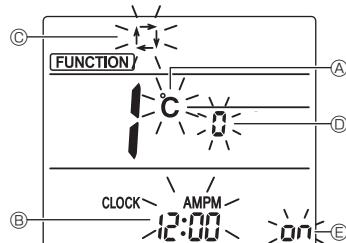

Fig. 7-10
3. Check that function No. "1" is displayed, and then press the Ⓛ SET button ③. The display setting screen will be displayed. (Fig. 7-10)